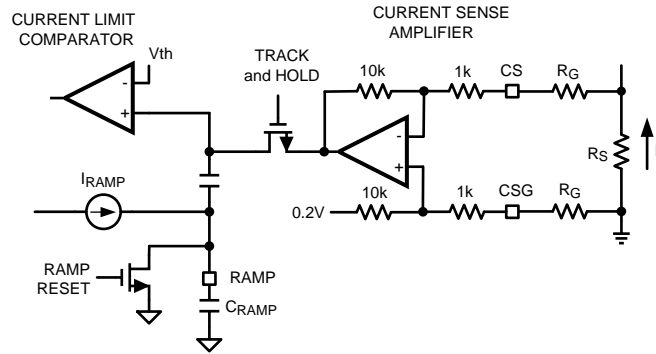

Figure 14. Current Limit and Ramp Circuit
The pedestal current sample is obtained from the current sense resistor (R_s) connected to the CS and CSG pins. It is sometimes helpful to adjust the internal current sense amplifier gain (A) to a lower value in order to obtain the higher current limit threshold. Adding a pair of external resistors R_G in a series with CS and CSG as shown in Figure 14 reduces the current sense amplifier gain A according to Equation 5.